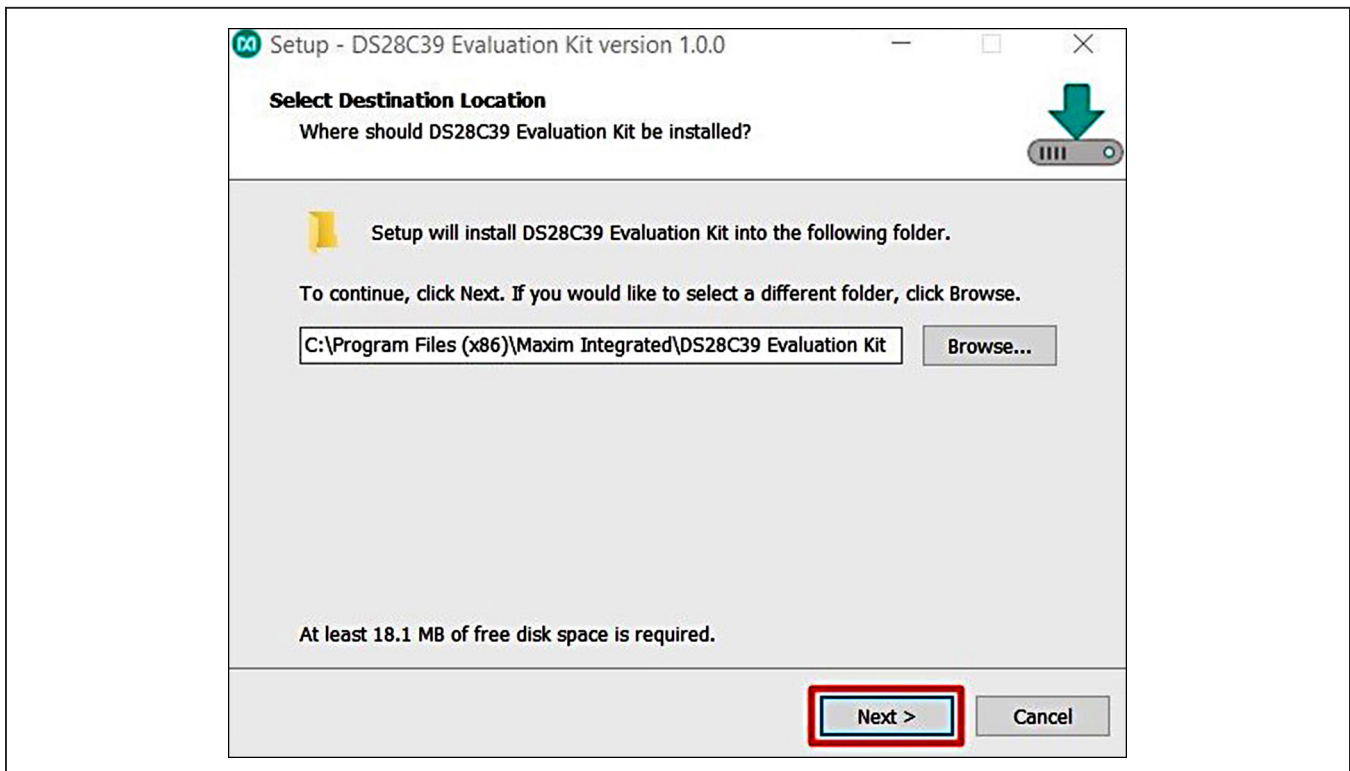

Figure 2. Install Folder Location
- 3) Click **Browse** to select a default folder location, and then click **Next** to install the EV kit software (Figure 2).